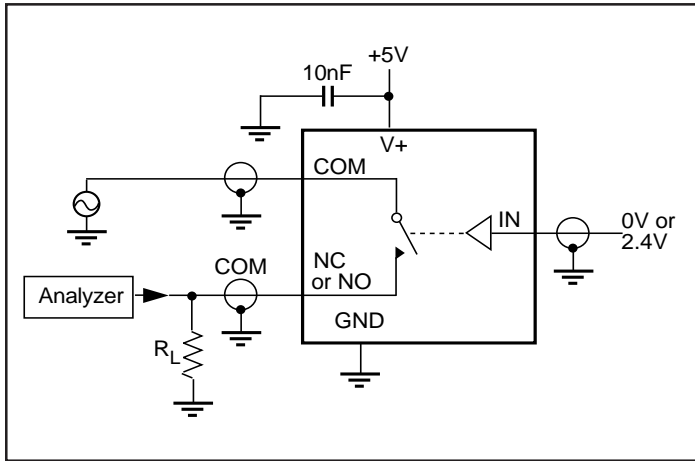

Figure 5. Off Isolation
7. Off Isolation = $20\log_{10} [V_{COM} / (V_{NC} \text{ or } V_{NO})]$. See Figure 5.